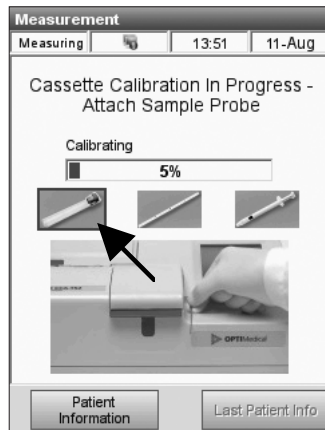
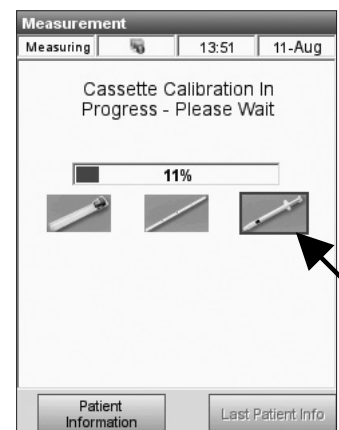

Fig. 5-16 E-Lyte CCA Cassette - Sample Tube selected
Fig. 5-18 E-Lyte CCA Cassette - Syringe selected
- When an E-Lyte CCA Cassette is inserted, the calibration screen will display the default selection for the sample container (Fig. 5-16) as selected in the **<Sample Container Menu>** (see Section 3.2.2.8). If necessary, you may change the sample container during calibration by selecting a different icon (Fig. 5-17 and Fig. 5-18).